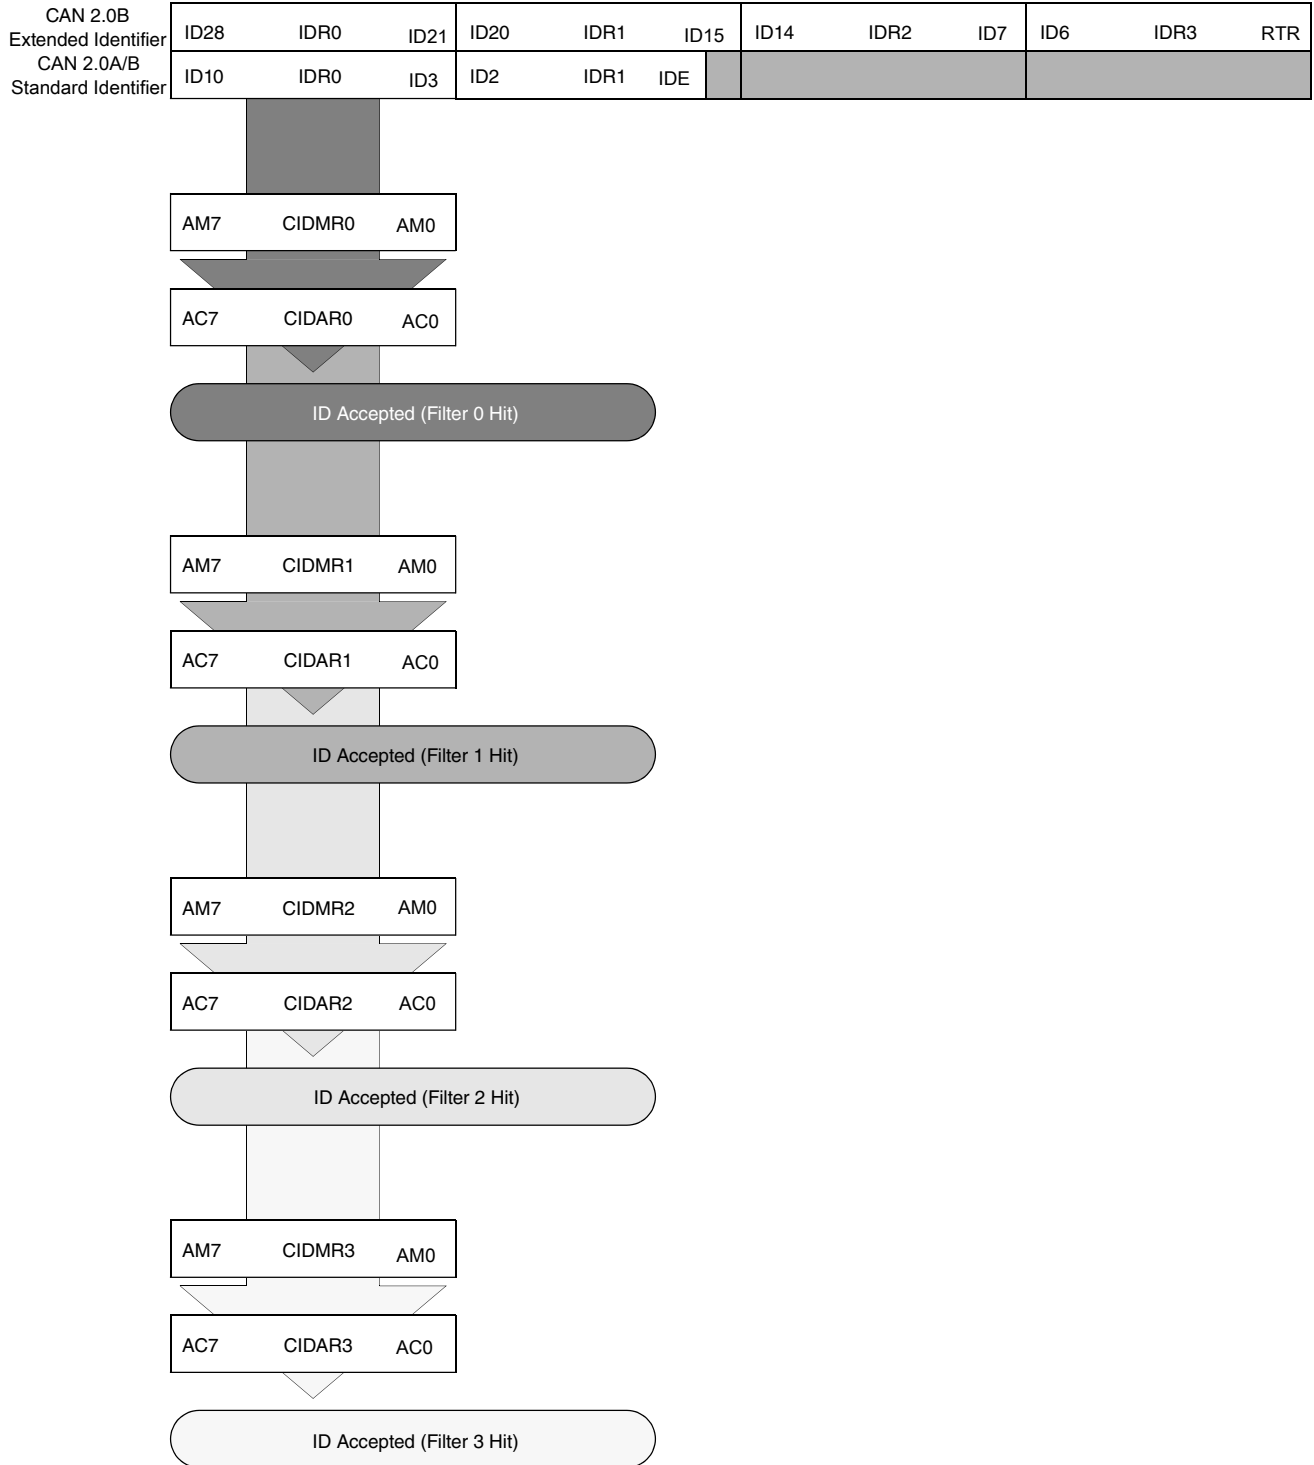

Figure 42-7. 8-bit maskable identifier acceptance filter
- Eight identifier acceptance filters, each to be applied to the first 8 bits of the identifier. This mode implements eight independent filters for the first 8 bits of a CAN 2.0A/B compliant standard identifier or a CAN 2.0B compliant extended identifier. Figure 42-7 shows how the first 32-bit filter bank (CANIDAR0-CANIDAR3, CANIDMR0-CANIDMR3) produces filter 0 to 3 hits. Similarly, the second filter bank (CANIDAR4-CANIDAR7, CANIDMR4-CANIDMR7) produces filter 4 to 7 hits.